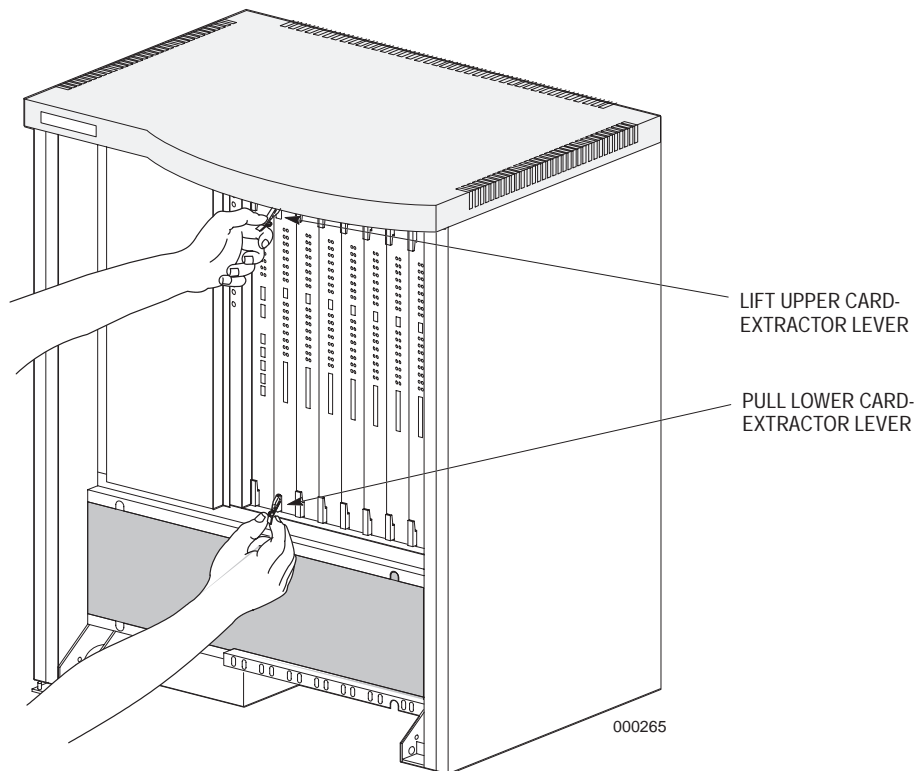

Figure 11-1. Removing a Logic Card.
4. When removing a logic card from the logic bay, use the card extractors, as shown in Figure 11-1. Do not force or bend the card.